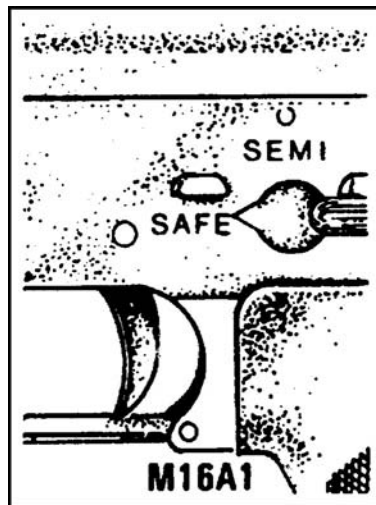

Figure 071-311-2027-1. Selector lever on SAFE
- d. Place the selector lever on SAFE (figure 071-311-2027-1).
- e. Check the chamber to ensure it is clear (figure 071-311-2027-2).